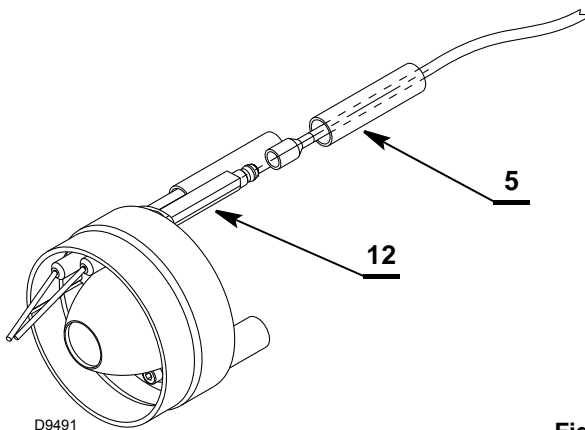

Fig. 27
- Thread the wires 5) (Fig. 27) in the electrodes 12), and check that the seal between cable-electrode terminals is properly fixed (if necessary, fasten the cable terminals); then, protect the terminals with the insulating tubes.